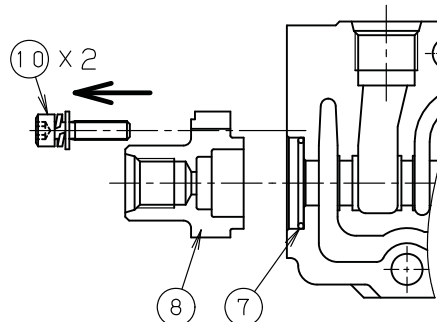

Fig.12 Pilot cover
**Pilot cover (see Fig.12)**
- ① Remove 2 hex socket head bolts with washers (10) with 4 mm hexagonal wrench.
- ② Remove pilot cover (8).